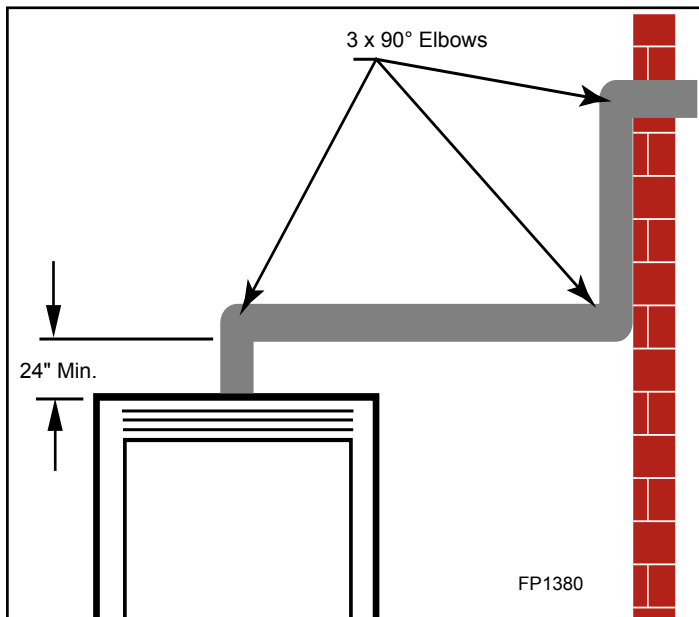

Figure 5.5 Maximum Three (3) 90° Elbows Per Installation
- The maximum number of 90° elbows per side wall installation is three (3). See Figure 5.5.